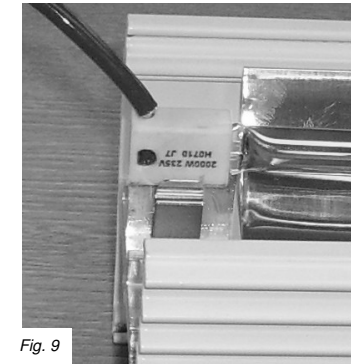
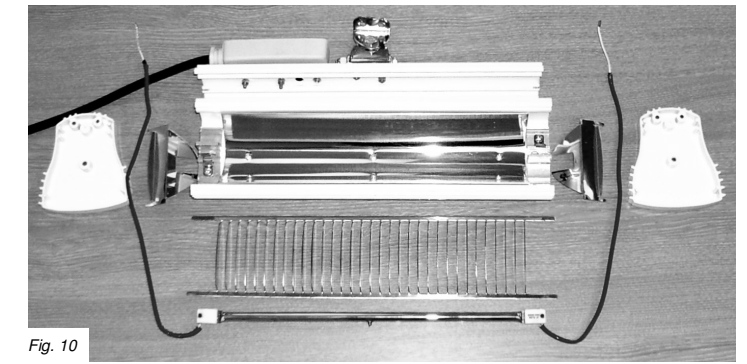

Fig. 9
Fig. 10
10. Repeat the removal of the end casing on the opposite end and remove the side reflector. The lamp can be released from this side now and completely removed (Fig. 9). The heater should now be broken down in its part form as shown in Fig. 10.